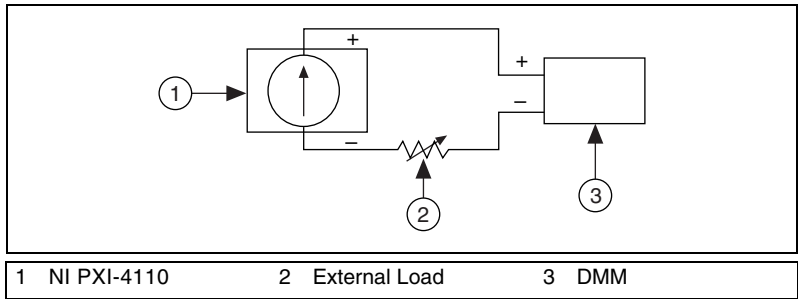

Figure 1. Current Accuracy Verification Test System
2. Connect the DMM and the external load to the channel *x* output terminals of the NI PXI-4110, as illustrated in Figure 1.
For all other *Output* values, connect the DMM and the external load to the channel x output terminals of the NI PXI-4110, as illustrated in Figure 1.